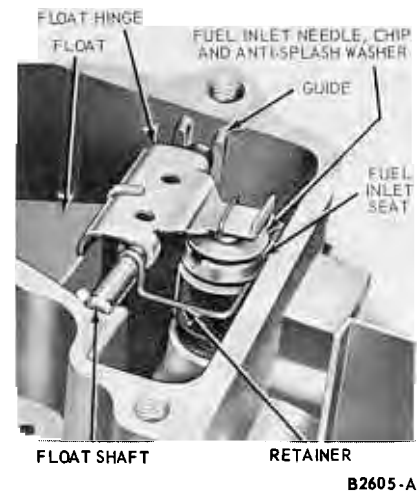

FIG. 12—Float Assembly
1. With the use of a screwdriver, pry the float shaft retainer from the fuel inlet seat (Figs. 12 and 13). Remove the float, float shaft retainer